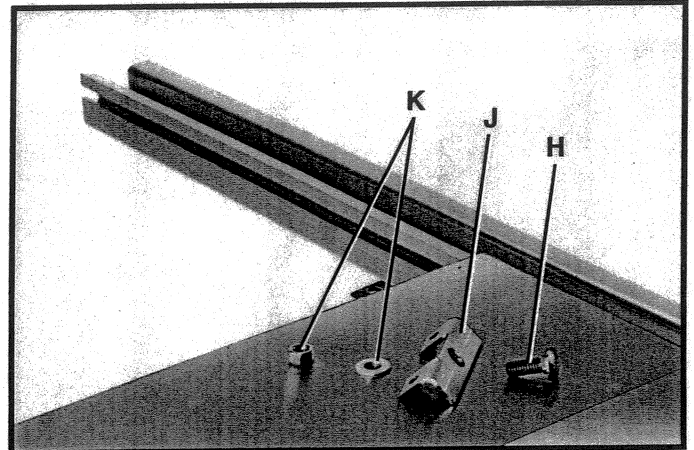

Fig. 21
5. Insert one-inch long carriage bolt (H) Fig. 21, into brackets (E) and (J) and loosely fasten with flat washer and hex nut (K).